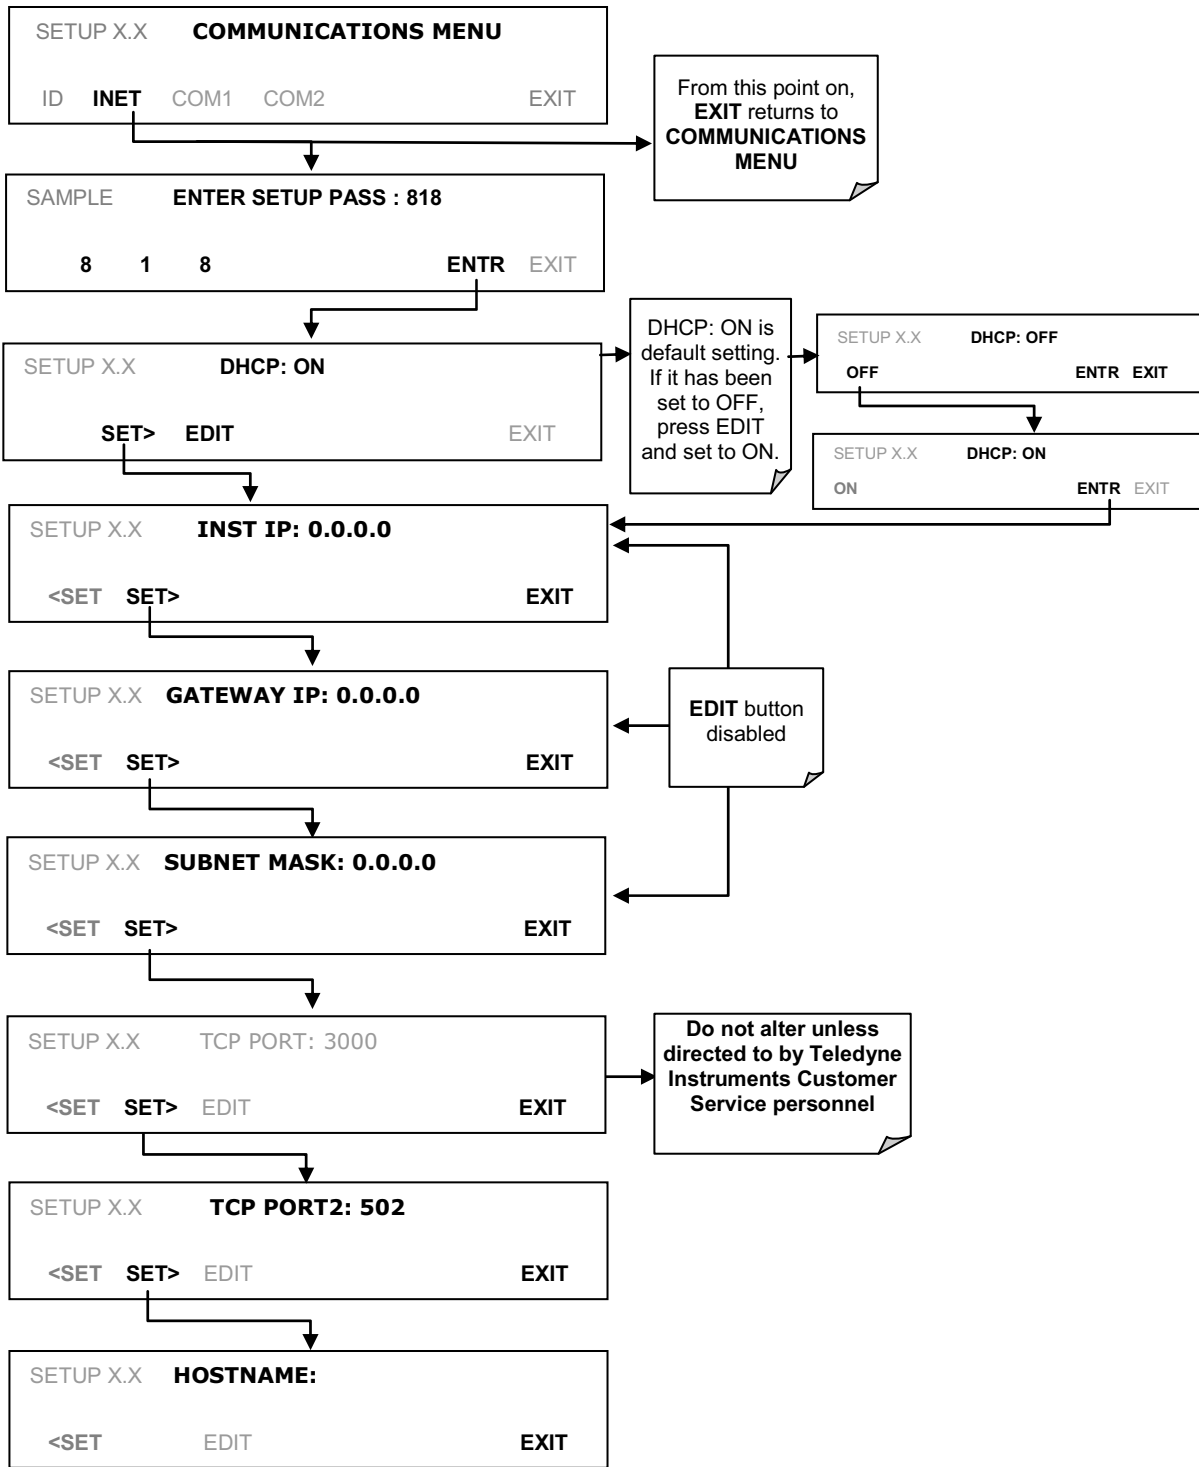

Figure 6-5. COMM – LAN / Internet Automatic Configuration (DHCP)
3. Enter the INET menu and follow the setup sequence as shown in Figure 6-5.
The **HOSTNAME** is the name by which the analyzer appears on your network. The initial default Hostname is blank. To assign or change this name (particularly if you have more than one 9110T analyzer on your network, where each must have a different Hostname), enter the **SETUP>COMM>INET** men and scroll to the **HOSTNAME** menu as in Figure 6-5; make the changes as shown in Figure 6-6: